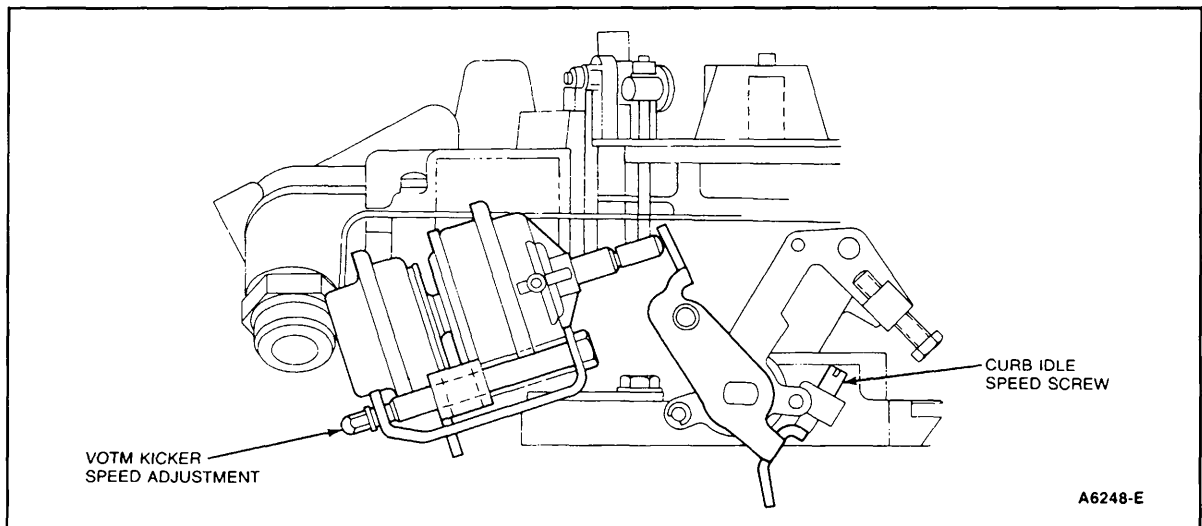

Figure 2 5.8L w/7200-VV Carburetor and VOTM (Kicker) Dashpot
7. Check/adjust VOTM kicker speed. If adjustment is required, loosen the saddle bracket hold-down screw, then turn the VOTM kicker speed adjusting screw. After adjustment is made, tighten the saddle bracket hold-down screw (Figure 2).